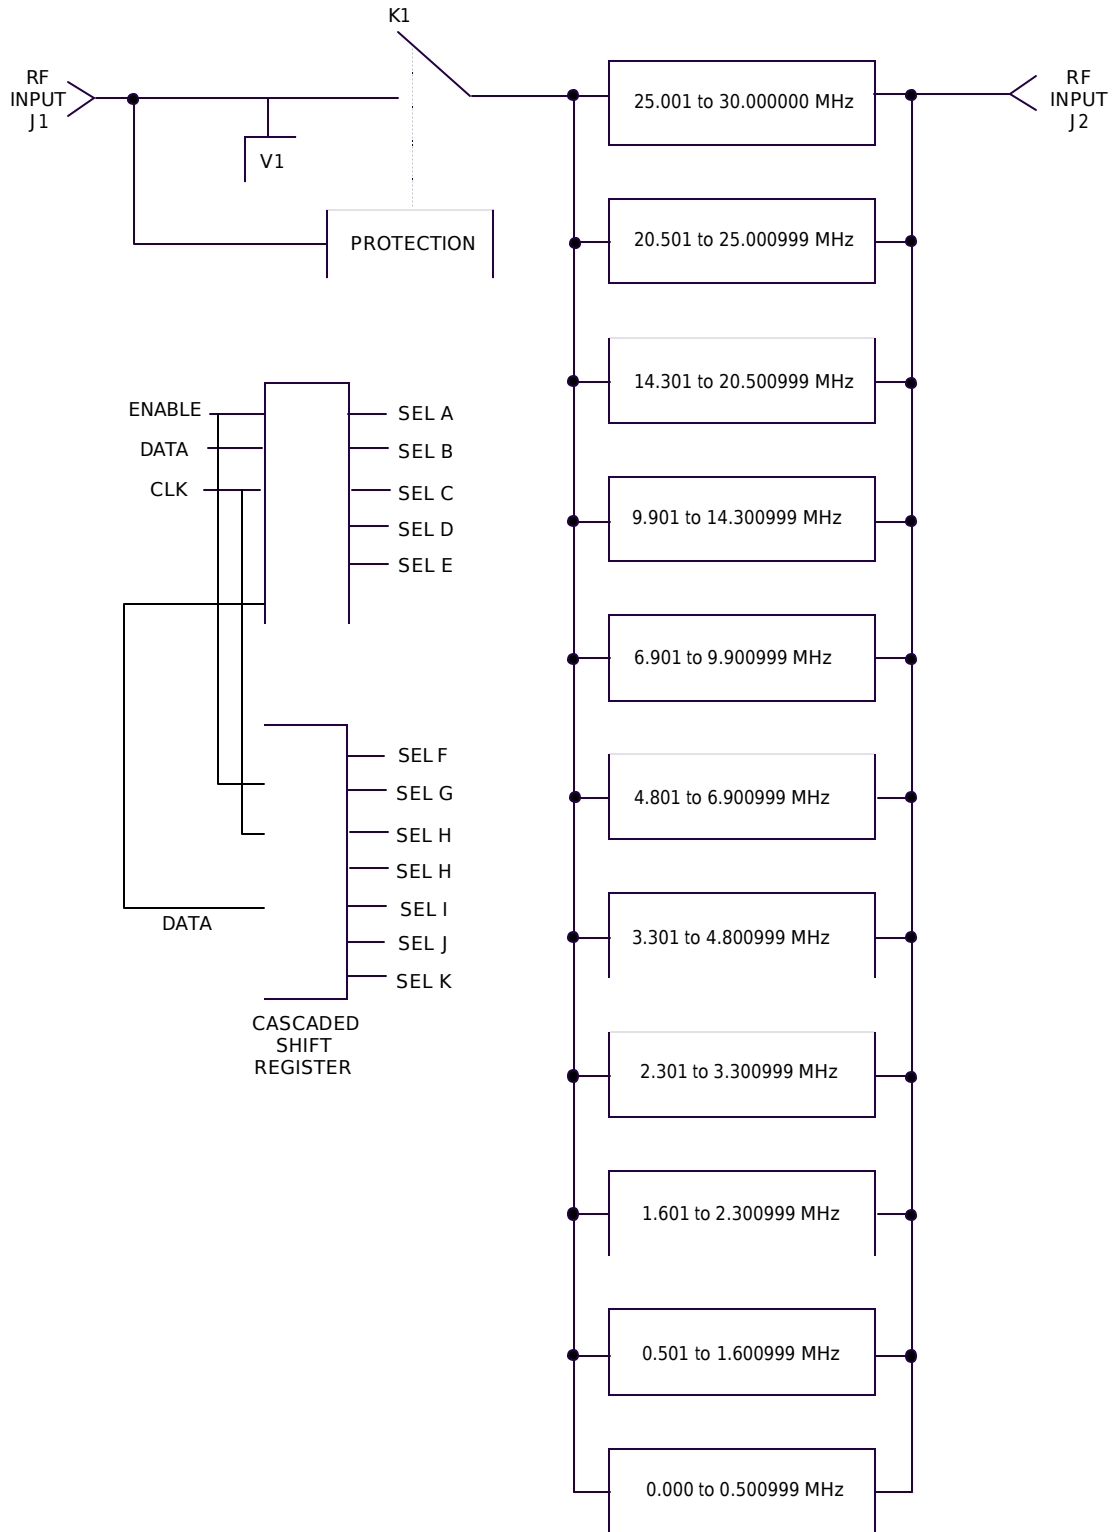

Figure B-1. Type 797033-1 Preselector Assembly (A4), Block Diagram
Refer to the Type 797033-1 Preselector Assembly (A3) Block Diagram in **Figure B-1** as a reference for the following module description. For a more detailed component level illustration of the Preselector circuitry, refer to the Type 797033-1 Preselector Assembly schematic diagram, **FO-B-2**. RF is input to the Preselector from the rear panel at A4J1. K1 is normally energized which allows RF to be routed to one of the eleven filters. **Table B-2** lists the band, frequency range, insertion loss, 10 dB attenuation points, and type of each of the eleven filters. The receiver's operating frequency determines which filter is activated. Filter selection data from the Digital Assembly (A2), via the RF Assembly (A3), is loaded into a pair of shift registers. The outputs of the registers select the appropriate filter for the RF signal path. The RF is filtered and made available at A4J2 for use by the WJ-8711.
4. WJ-8711s (serial numbers 688 and above) have two 0.532-inch diameter preselector connector holes and three 0.145-inch diameter preselector mounting holes as shown in **Figure B-1**. Earlier WJ-8711s do not have these holes. If the WJ-8711 does not have these holes, use the information in **Figure B-2**, or the template in **Figure B-3**, to measure and mark the necessary WJ-8711 rear panel.